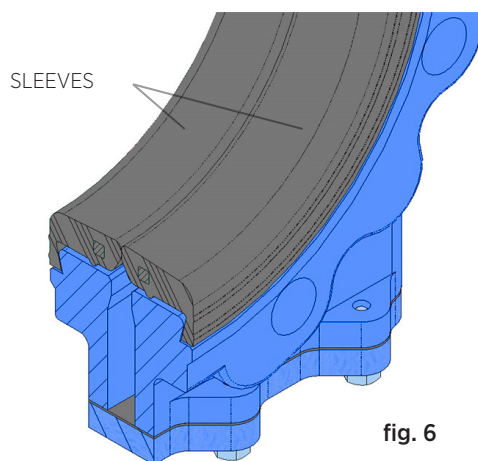

fig. 6
3. Place the gate (2) in open position
4. The sleeves (7) are replaced from outside the valve's body, it is a seat with two symmetrical parts, below we show a diagram of the seat (fig.6)..
6. Once they have been lubricated with Vaseline, insert the new sleeves (7) of the same dimensions as those old ones..